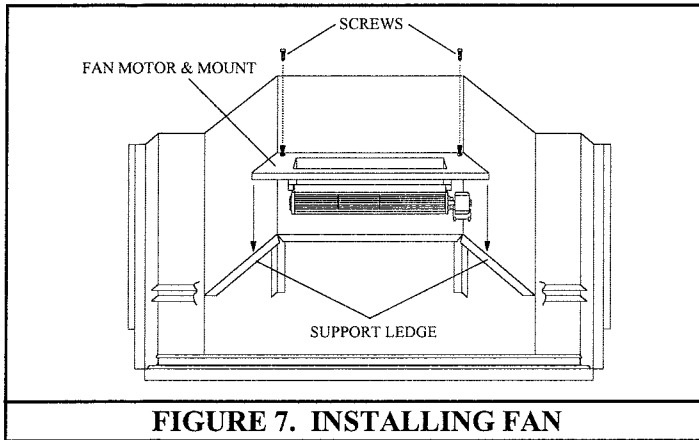

FIGURE 7. INSTALLING FAN
STEP2. Place the fan and mount so that the fan sits on the support ledge and is flush to the back wall of the fireplace. Attach with 2 sheet metal screws through the pilot holes provided. (See figure 7.)